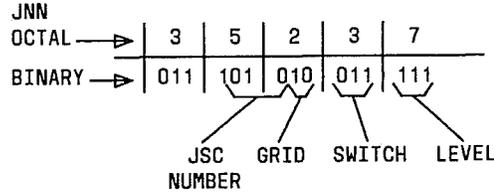

Fig. 2 — Octal to Binary Conversion
7. Convert the JNN (use third line of **NE05** message for Code 100 and fourth line for TAT 1) from packed octal to binary (Fig. 2)